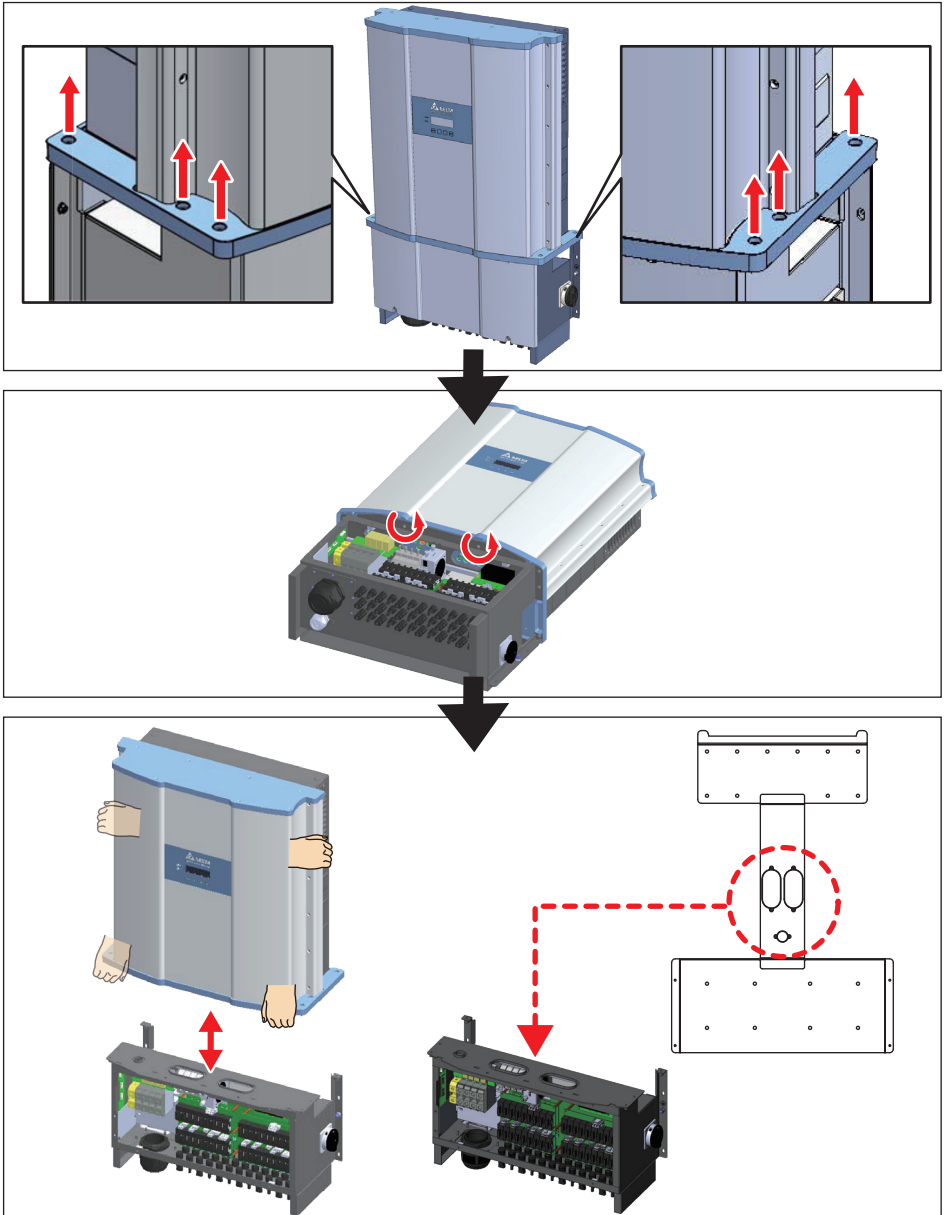

Figure 5-18 : Remove 8 screws and then separate WB from PM
7. Unscrew 8 screws and use hands to grip tightly to separate the wiring box compartment from the power module compartment as shown in **Figure 5-18**.